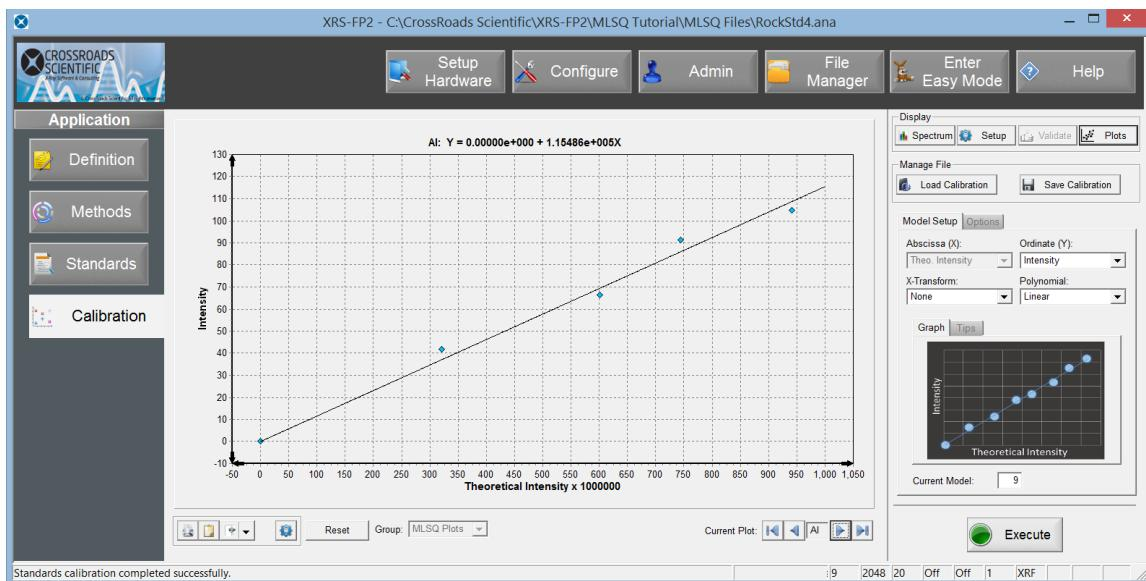

Figure 7. MLSQ Least Squares Plot for AI. Least squares plot for AI.
18. After the MLSQ calibration has been completed, the **Plot** button can be selected to display the least squares plot for each element (see Fig. 7 below). Use the “Previous” and “Next” buttons to display plots for each of the elements. Scroll through all the plots and observe the quality of the fit for each element. After scrolling through all plots, the panel will close or you can use the **Exit** button at any time.
Figure 7. Application - Methods. Data after processing CaCO3.ana. Note that for XRS-FP2 to process the carbon and oxygen elements in this low-Z standard, the compound MUST be entered as “CaC O3” in the “Component Table”, i.e. with a space between the C and the O. Also be sure to enter “O” for oxygen, as the number “0” will not be recognized as the element oxygen.